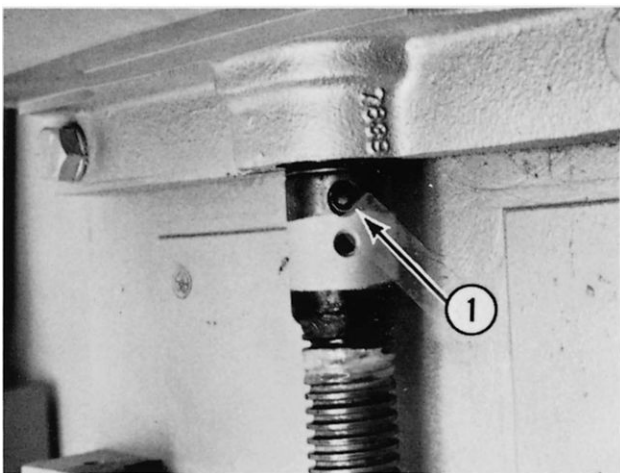

Fig.12-7
- C. Drive the spirol pin (Fig. 12-7) out of the bowl lift screw.